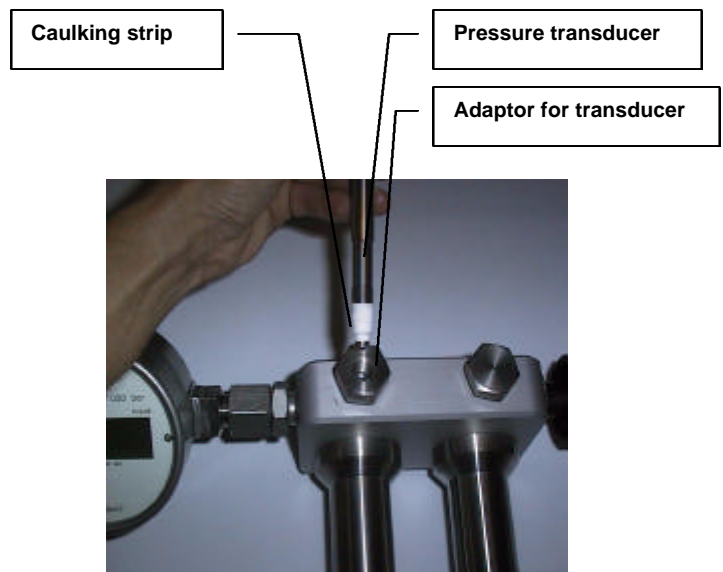

Figure 2
3. Wrap the pressure transducer which has to be checked in the area of the screw-in thread and the 45 ° packing surface with the caulking strip which is supplied at the same time ( Figure 2 ), screw it into the adaptor, and tighten it “solidly”. Connect an evaluation unit in order for the transducer signal to be displayed ( e. g. Gneuß pressure measurement amplifier DMV 3000).